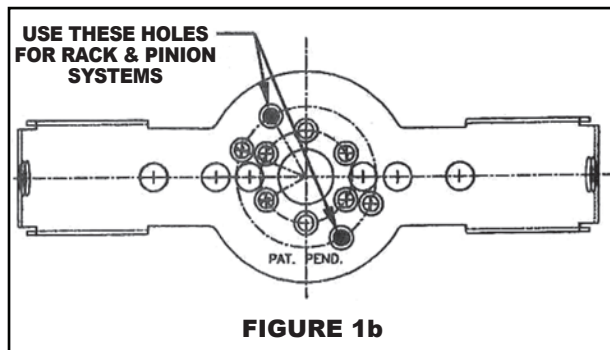

FIGURE 1b
Step 2. Using the template provided, mark the plastic bezel and drill two 3/16" diameter holes (see Figure 1b). NOTE: IF YOUR BEZEL ALREADY HAS RECESSED HOLES AT THESE LOCATIONS, THEN NO DRILLING OF THE BEZEL IS NECESSARY.